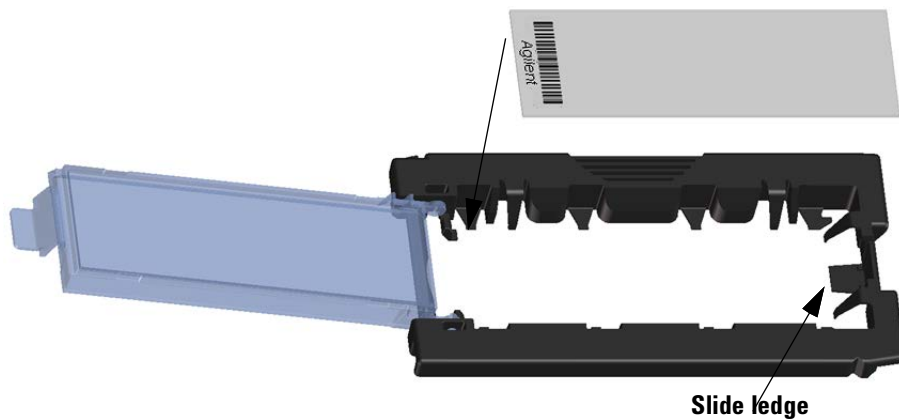

Figure 24 Inserting slide into the slide holder
- a Hold the slide at the barcode end and position the slide over the open slide holder. Make sure that the active microarray surface faces up with the barcode on the left, as shown in Figure 24. Review Figure 3 on page 50 for a description of the active side.
- b Carefully place the end of the slide without the barcode label onto the slide ledge. See Figure 24.